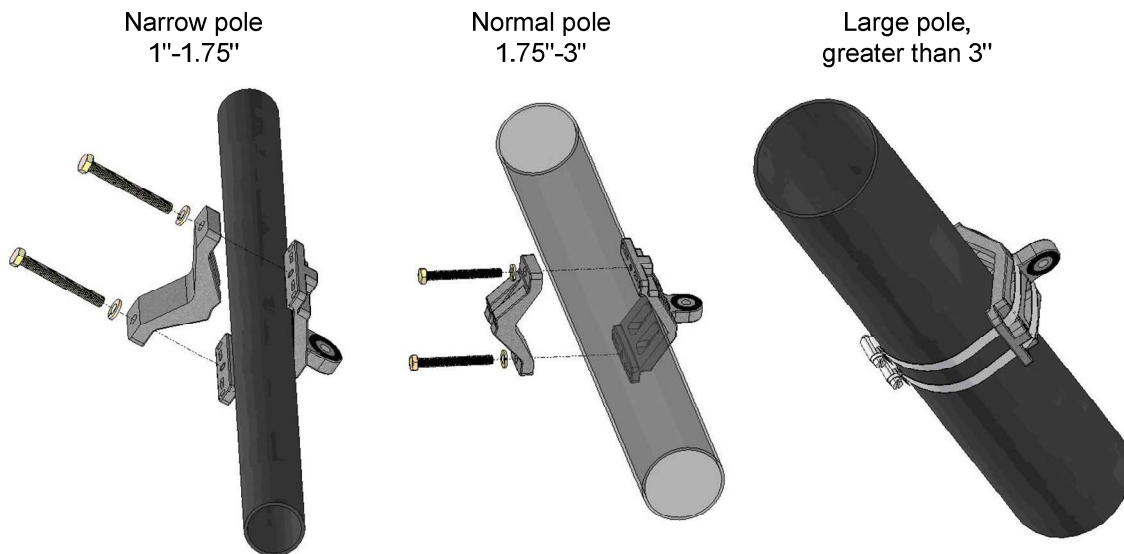

Figure 3: Pole Bracket Assembly
2. Installation of the mounting brackets to a streetlight arm or a pole differs according to the width of the pole, as illustrated in Figure 3.